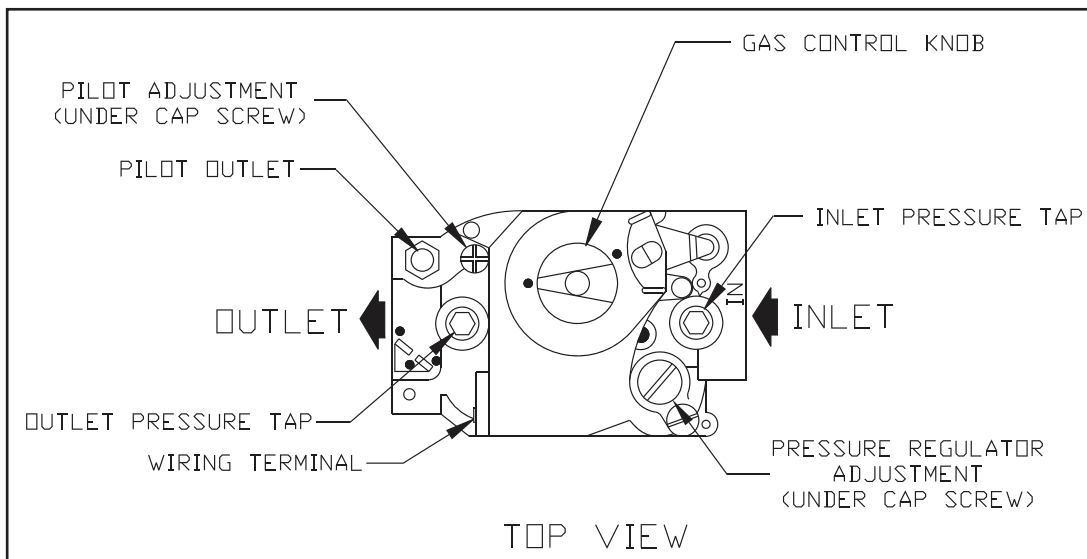

FIGURE 16: GAS VALVE DETAIL - HONEYWELL VR8204 AND VR8304
- Connect a manometer to the inlet pressure tap on the gas valve (see Figure 16).
- Connect a manometer to the manifold (outlet) pressure tap on the gas valve (see Figure 16).
- If a manifold pressure adjustment is needed, make the adjustment by turning the pressure regulator (see Figure 16) screw clockwise to raise the pressure and counter clockwise to reduce the pressure. If a manifold pressure adjustment is made, recheck the line pressure to be certain that it is still within acceptable limits. Replace the cover screw on the regulator.